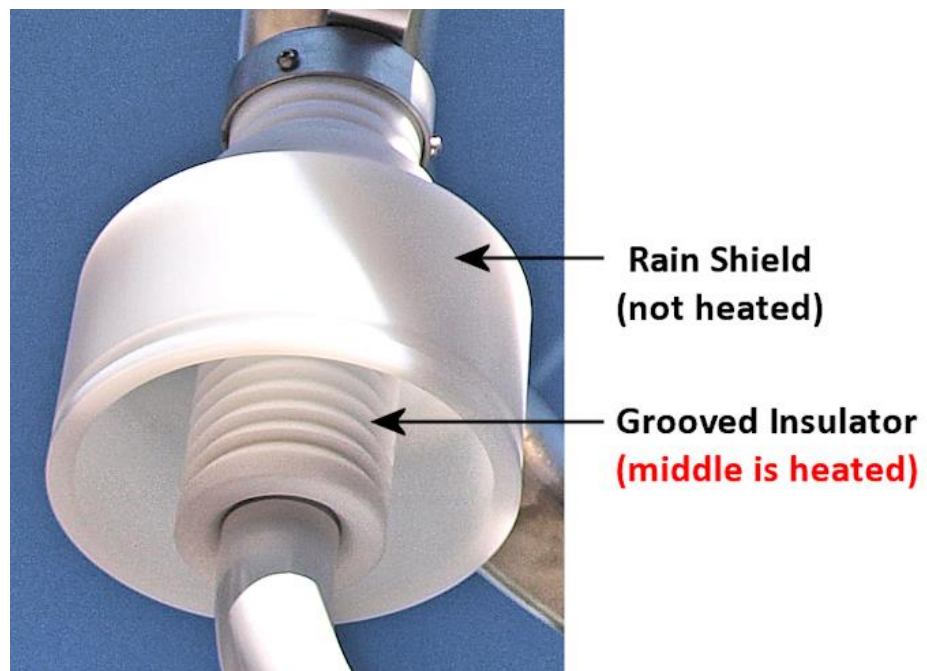

Figure 13: Antenna insulator unit showing the location of the unheated outer rain shield and inner heated grooved insulator block.
- If possible, check the insulator heaters are still operating by identifying that the temperature near the middle of the grooved insulator cylinder behind the rain shield is at least 1°C (typically 5°C) warmer than the surrounding air temperature. A picture showing the location of the inner grooved insulator block is provided in Figure 13.